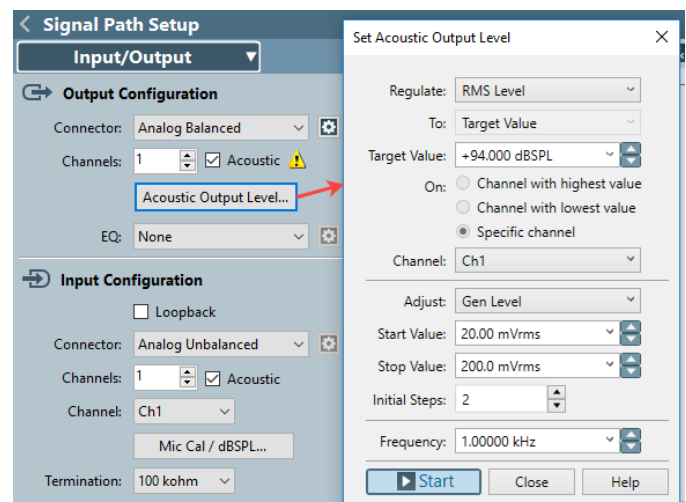

Figure 5. Set Acoustic Output Level dialog.
4. Set the analyzer output mode to Acoustic and use the Set Acoustic Output Level feature (Figure 5) to calibrate the output level at the reference frequency.